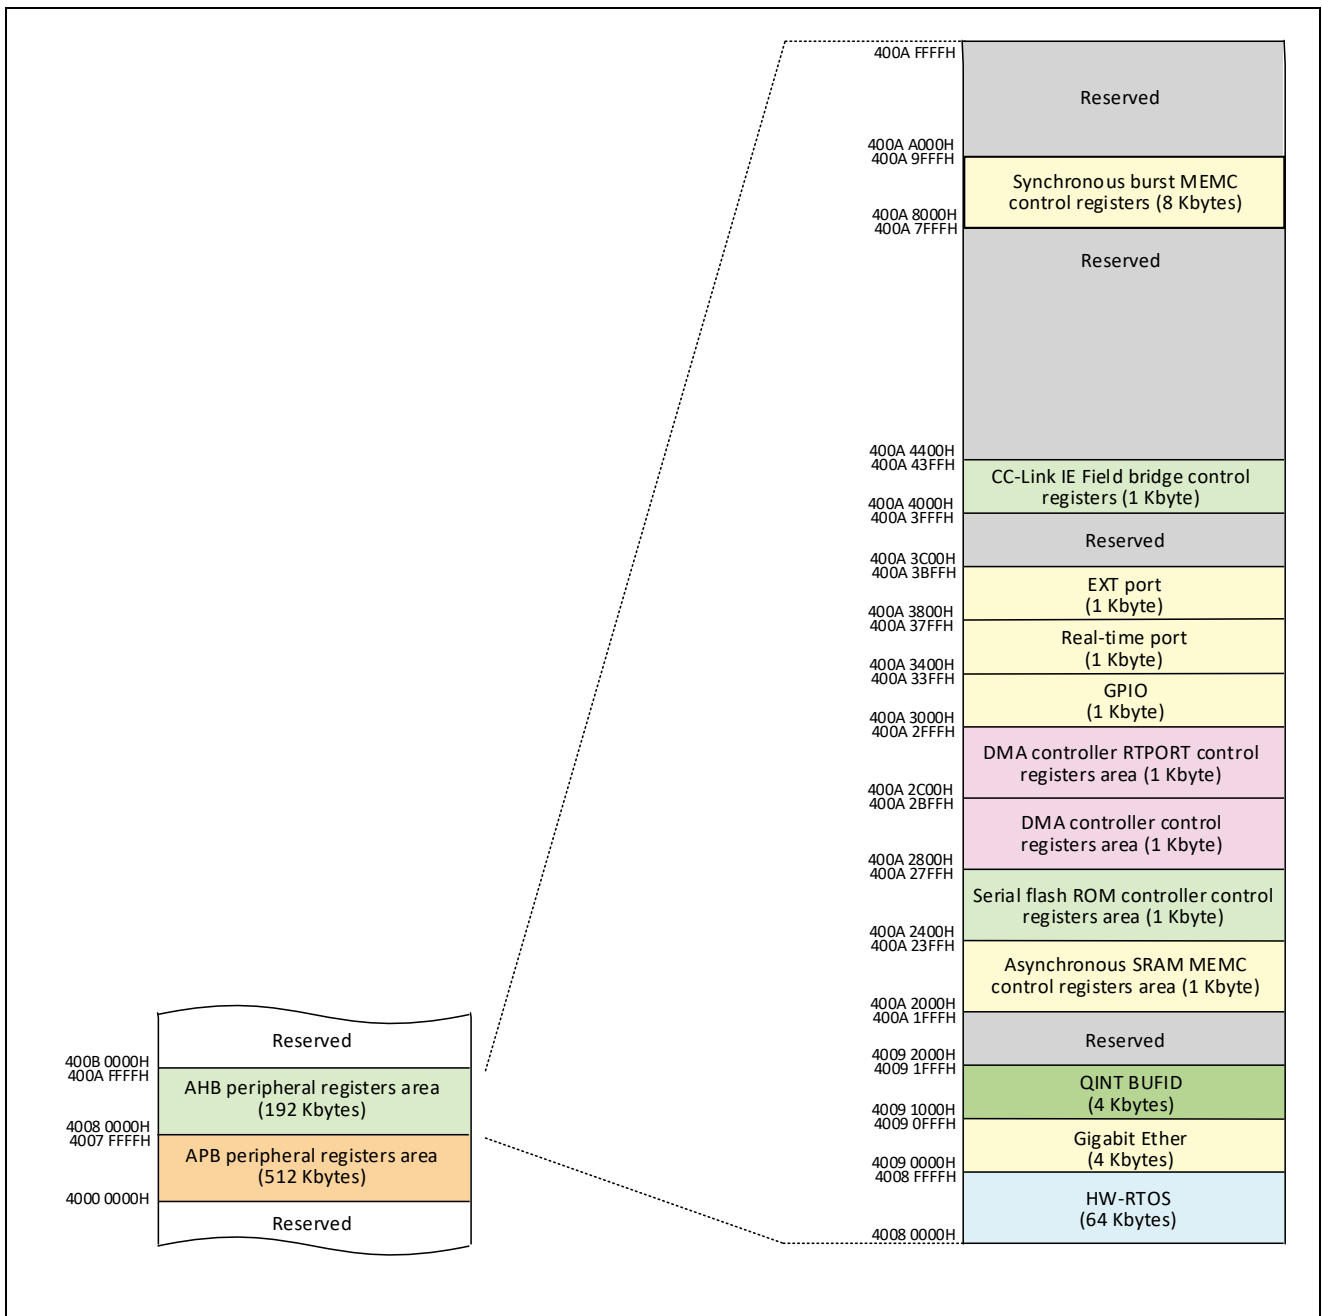

Figure 3.3 Memory Map (AHB Peripheral Registers Area)
**Note 1.** The upper 52 Kbytes of the AHB peripheral registers area cover the range from the GPIO area to the synchronous burst memory controller control registers. For details, refer to “Figure 3.3 Memory Map (AHB Peripheral Registers Area)”.